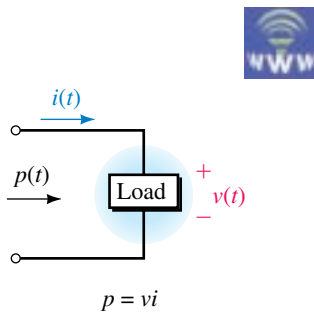

FIGURE 17-1 Voltage, current, and power references. When p is positive, power is in the direction of the reference arrow.
- If the power at some instant in Figure 17-1 is $p = -27 \text{ W}$, in what direction is the power at that instant?
The relationships described above were developed using the load of Figure 17-1. However, they hold true for every element in a circuit, no matter how complex the circuit or how its elements are interconnected. Further, in any circuit, total real power P_T is found by summing real power to all circuit elements, while total reactive power Q_T is found by summing reactive power, taking into account that inductive Q is positive and capacitive Q is negative.